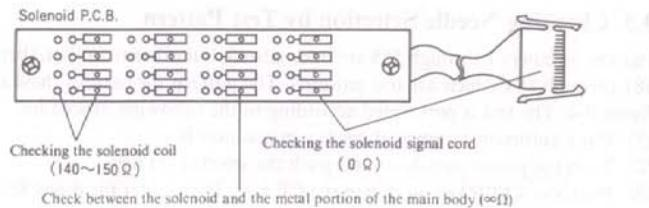

Figure 9-3
- ③ Disconnect the needle selector solenoid unit (refer to on P.45 item 11). Check the resistance values of the places which correspond to the solenoids on the solenoid PC board which were found to be bad. The resistance value of the solenoid coil should be between $140 - 150 \Omega$, the resistance value of the solenoid signal cord should be 0Ω , and the resistance value of the metal portion of the main body and the solenoid should be $\infty \Omega$ (refer to figure 9-3).